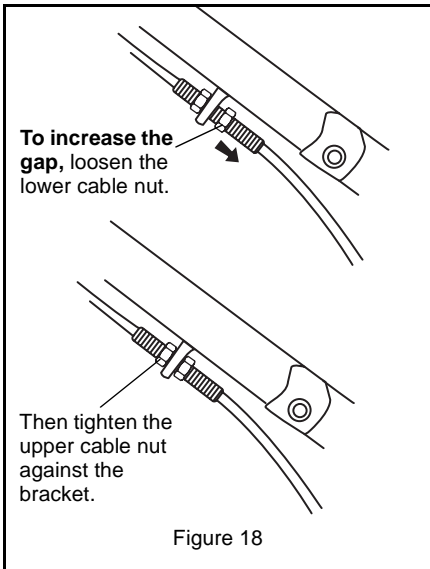

Figure 18
- Loosen the lower cable nut on the wheel drive control cable, and then tighten the upper cable nut against the adjuster bracket. See Figure 18.